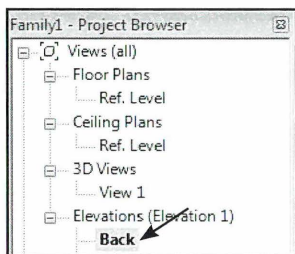

Fig. 05.14. Project Browser.
- Stå I *Elevations - Back* i *Project Browseren* (Fig. 05.14).